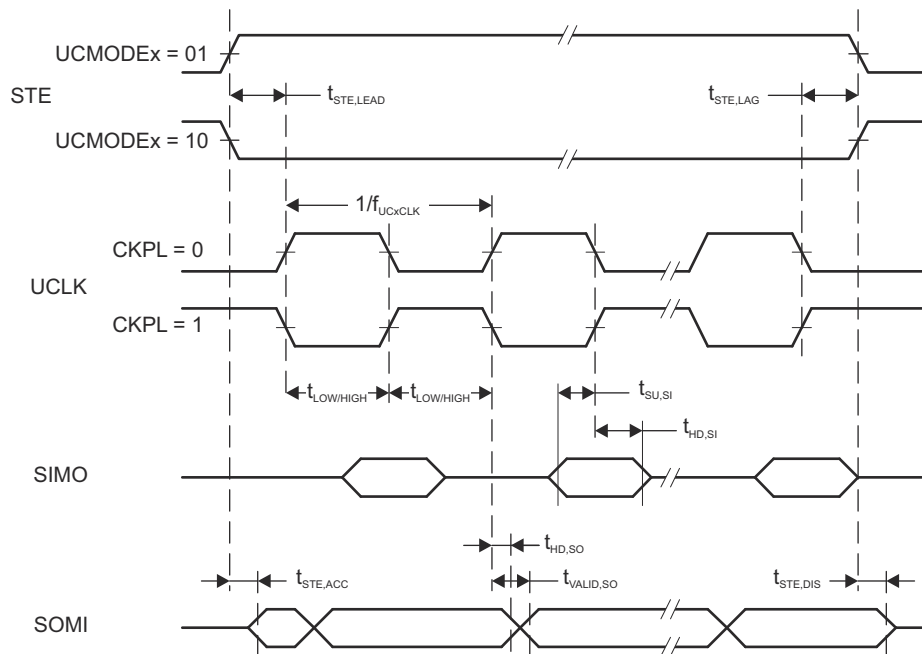
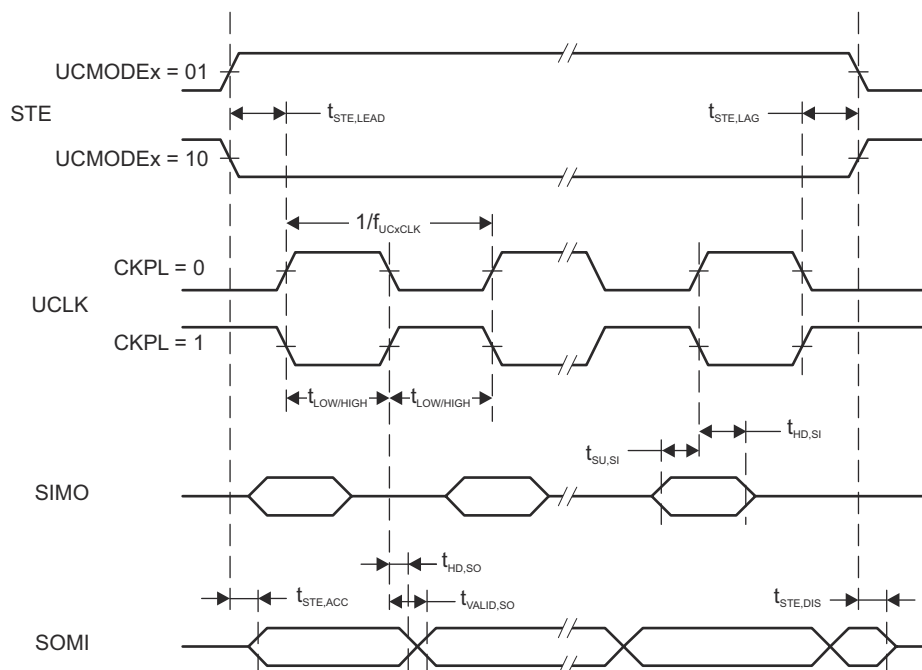

图 8-12. SPI Slave Mode, CKPH = 0
图 8-13. SPI Slave Mode, CKPH = 1
(2) Specifies the time to drive the next valid data to the SOMI output after the output changing UCLK clock edge. Refer to the timing diagrams in 图 8-12 and 图 8-13.
(3) Specifies how long data on the SOMI output is valid after the output changing UCLK clock edge. Refer to the timing diagrams in 图 8-12 and 图 8-13.